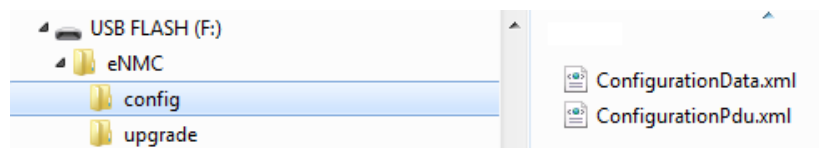

Figure 70. Verify Files at USB Root
1. Verify that the USB drive contains the ConfigurationPdu.xml file and ConfigurationData.xml files in eNMC/config directory of USB drive (see Figure 70).